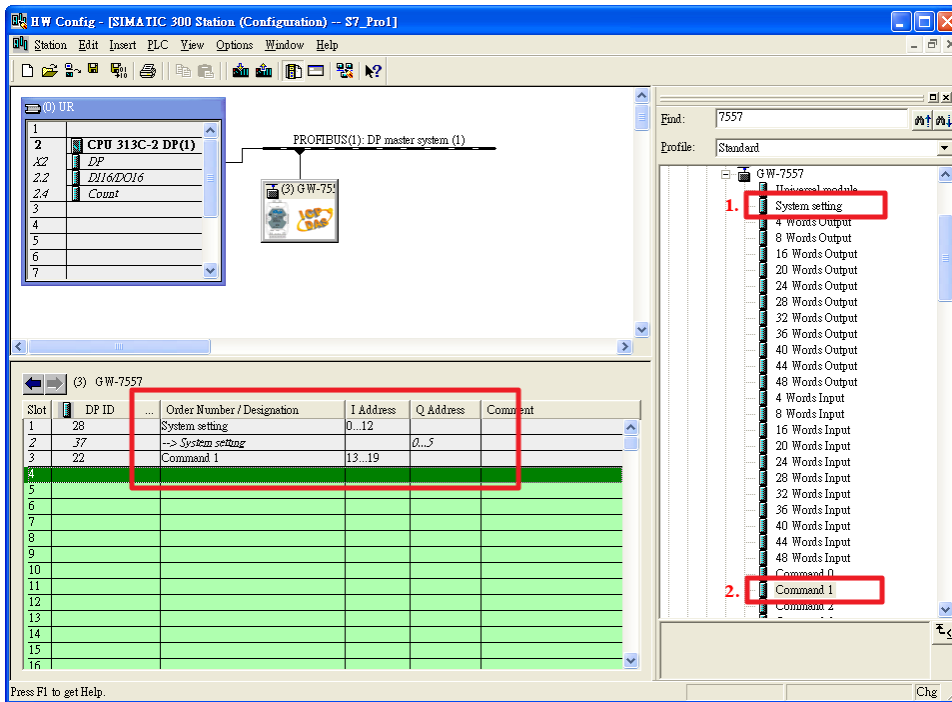
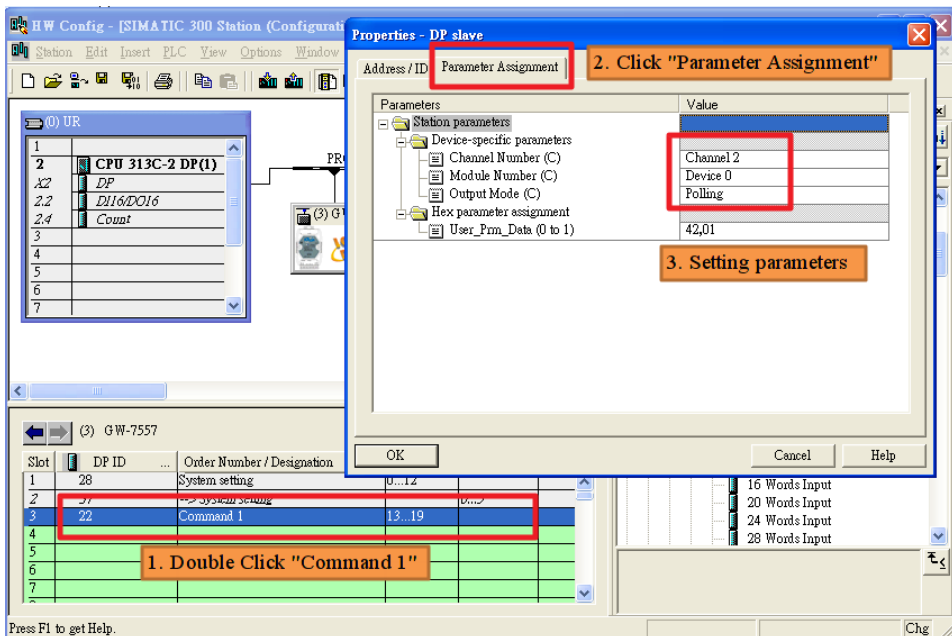

Figure 35 Select modules
Figure 36 Set module parameters of Command 1 module
- Step 4: Set the GW-7557 modules, as shown in *Figure 35* and *Figure 36*.